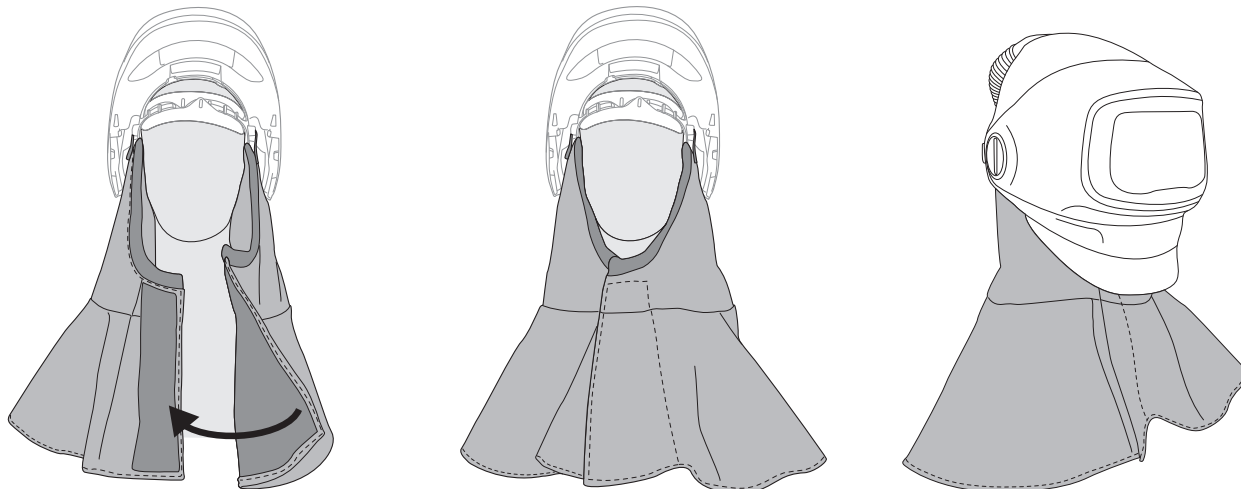

Fig. 18g
- f. To don the welding helmet with the shroud, open the hook and loop seal, place the shroud behind the head, lower the welding helmet, tighten the headgear suspension and seal the hook and loop fastener down the front of the user (Fig. 18g).